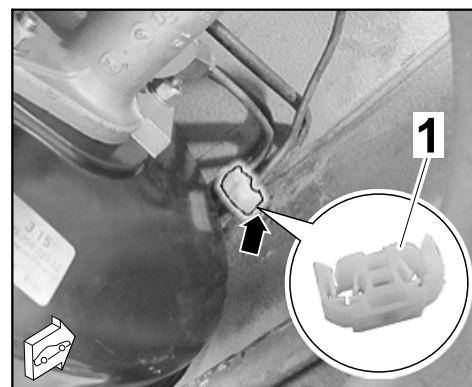

Figure 37
- 8.6.1 Secure brake lines in the area where the tucker stud was removed ⇒ *Figure 37 -arrow-* using a holder (999.591.880.40) ⇒ *Figure 37 -1-*.